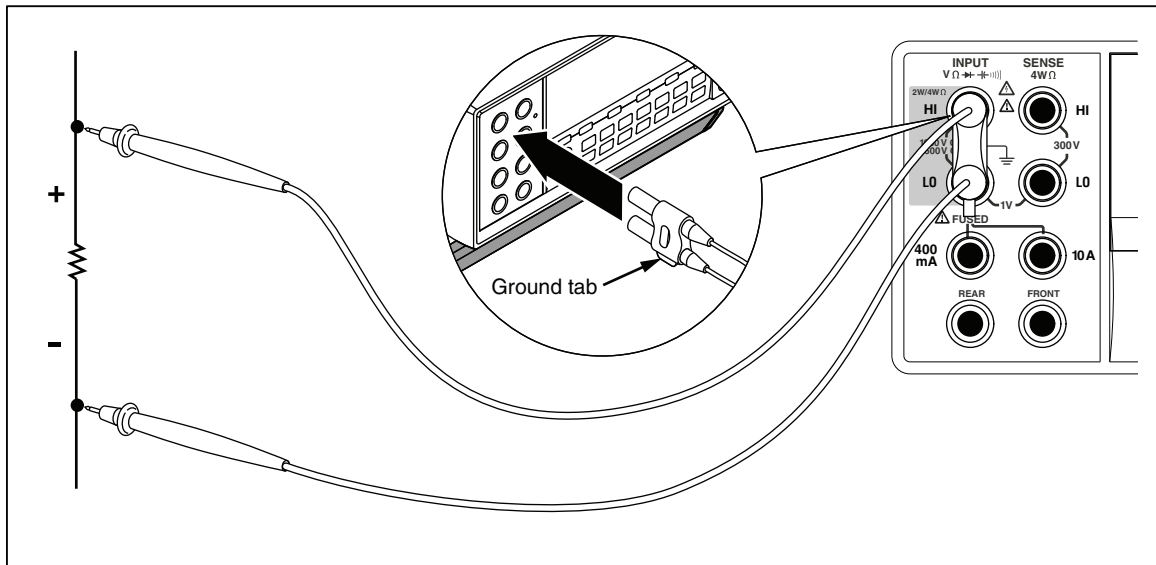

Figure 4-3. Input Connections for 4-wire ohms using 2x4 wire leads.
1. Connect the test leads to the Meter's input connectors as show in Figure 4-3.